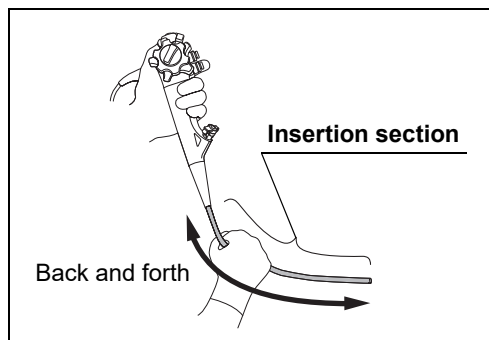

Figure 3.4
- 7 Using both hands, bend the insertion tube of the endoscope into a semicircle. Then, moving your hands as shown by the arrows in Figure 3.4, confirm that the entire insertion tube can be smoothly bent to form a semicircle and that the insertion tube is pliable.